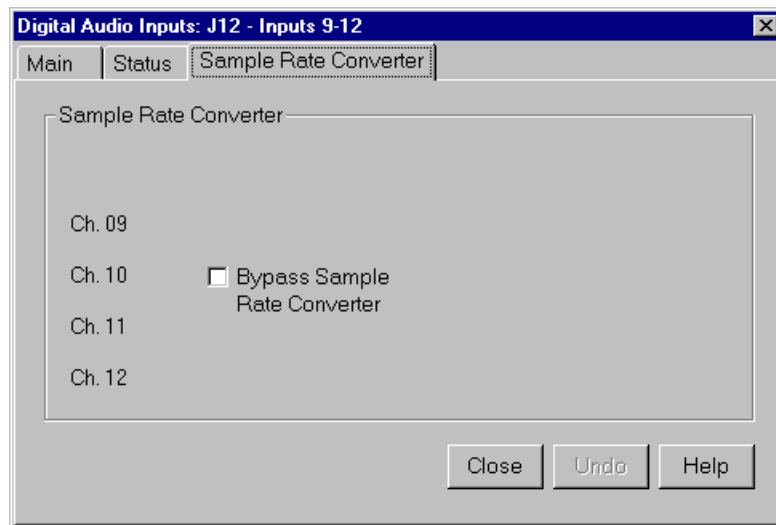

Figure 32. Digital Audio Input dialog box, Sample Rate Converter tab
1. In the Digital Audio Input dialog box, click the Sample Rate Converter tab (Figure 32). By default, the sample rate converter is enabled. The sample rate converter affects all four channel inputs.